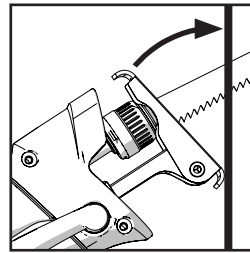

Fig. 10
- Hold the machine at an angle to the workpiece with the bottom edge of the workpiece contact plate resting firmly against the workpiece. (**Fig. 10**).